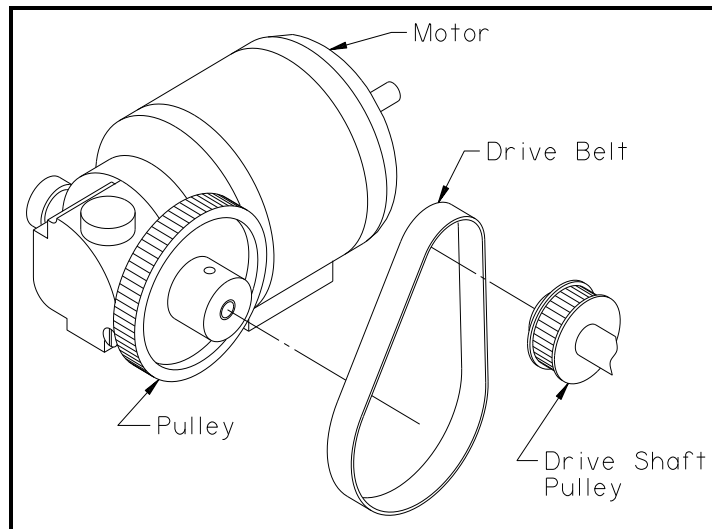

Figure 6: Belt Diagram
1. Loop the new belt over the drive shaft pulley (see Figure 6).